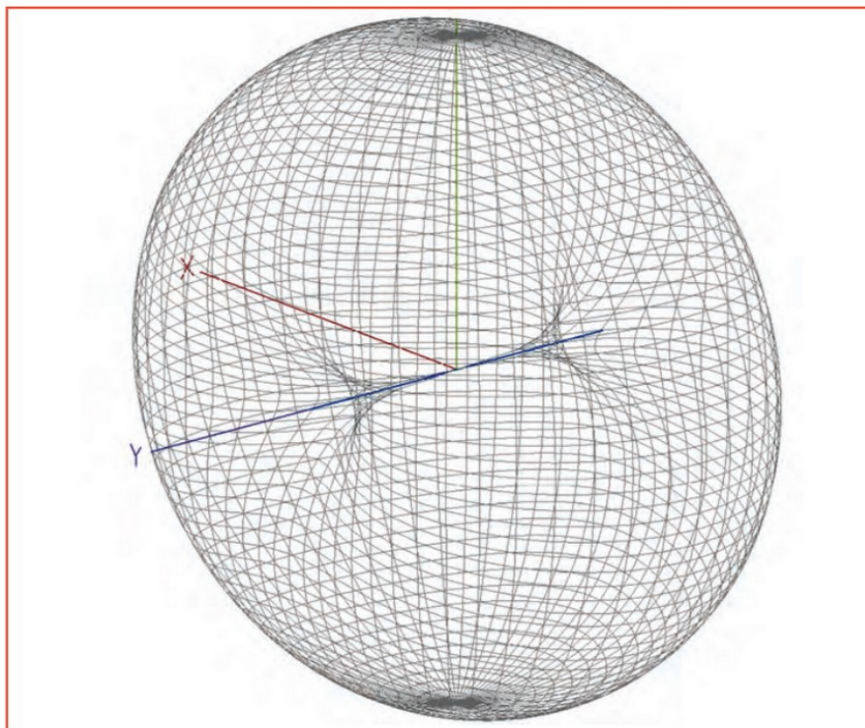

FIGURE 5: A $\lambda/2$ dipole radiation pattern.
1.64 is the gain of a half wave dipole eg 2.14dB isotropic. The explanation here is energy is concentrated, radiating two side lobes from a dipole, the maximum radiation is in front and back but little is measured at the ends as you can see in Figure 5 depicting the 3D far field radiation of a halfwave dipole. Because the energy distribution is focused, it has gain relative to an idealised isotropic radiator where all the energy would be evenly distributed over the surface of the sphere.